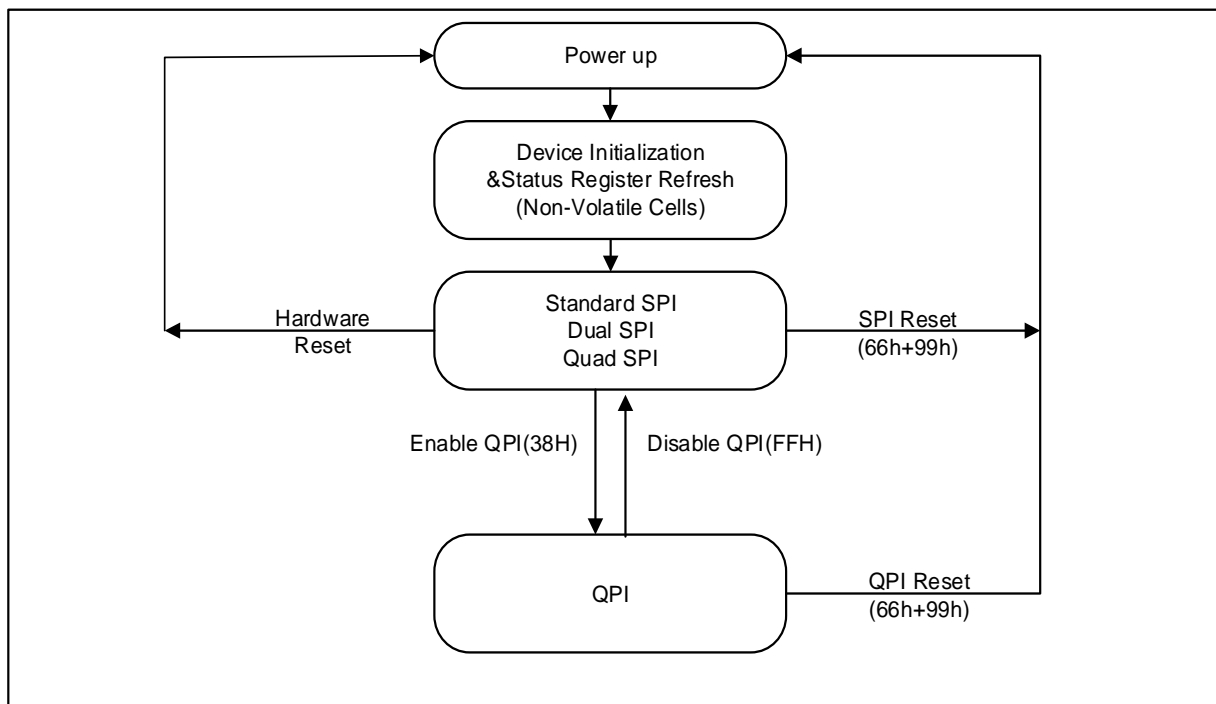

Figure 3. XM25QW64C Serial Flash Memory Operation Diagram
The XM25QW64C supports Quad Peripheral Interface (QPI) operations only when the device is switched from Standard/Dual/Quad SPI mode to QPI mode using the “Enter QPI (38h)” instruction. The typical SPI protocol requires that the byte-long instruction code being shifted into the device only via DI pin in eight serial clocks. The QPI mode utilizes all four IO pins to input the instruction code, thus only two serial clocks are required. This can significantly reduce the SPI instruction overhead and improve system performance in an XIP environment. Standard/Dual/Quad SPI mode and QPI mode are exclusive. Only one mode can be active at any given time. “Enter QPI (38h)” and “Exit QPI (FFh)” instructions are used to switch between these two modes. Upon power-up or after a software reset using “Reset (99h)” instruction, the default state of the device is Standard/Dual/Quad SPI mode. To enable QPI mode, the non-volatile Quad Enable bit (QE) in Status Register-2 is required to be set. When using QPI instructions, the DI and DO pins become bidirectional IO0 and IO1, and the /WP and /HOLD pins become IO2 and IO3 respectively. See Figure 3 for the device operation modes.